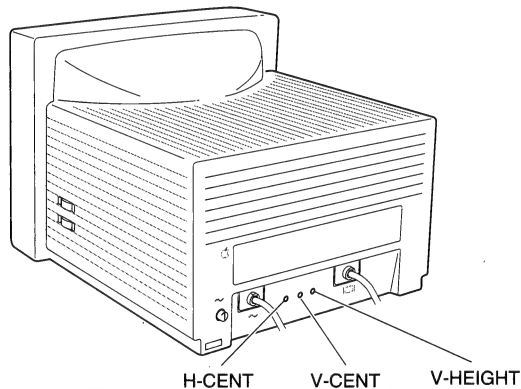

Figure 3 Size and Centering Controls
2. FIGURE 3. Turn the V-HEIGHT control (VR404) until the raster is 153 mm (± 2 mm) or 6 1/16" ($\pm 1/16$ ") high.
2. FIGURE 3. Turn the V-CENT control (VR403) until the raster is positioned in the approximate center of the screen.
2. FIGURE 3. Turn the H-CENT control (VR503) until the raster is positioned in the center of the screen. If the raster cannot be positioned in the center of the screen, set the H-CENT control at midrange and continue with step 3.